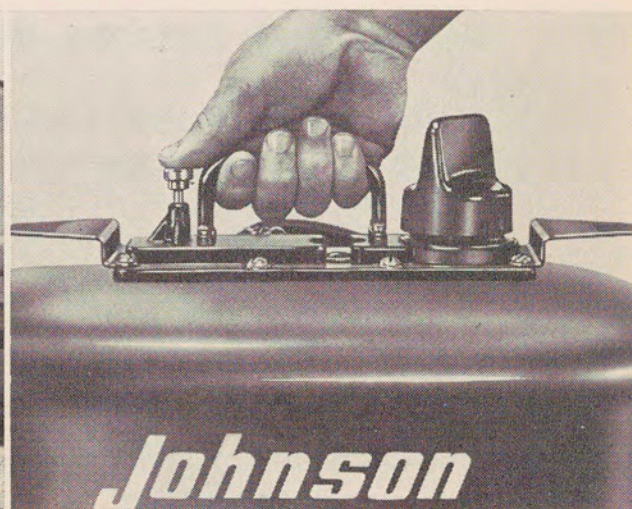

Figure 8
2. Depress pump button on the tank several times as shown (Figure 8). Note that pressure required to operate the pump increases as the fuel line and carburetor fill up—this is your signal to stop pumping. It is not necessary to pump beyond this point—priming is required only after having attached the fuel line. Fuel level is automatically maintained in the carburetor by pressure built up in the tank during operation of the motor.
- Depress pump button on the tank several times as shown (Figure 8). Note that pressure required to operate the pump increases as the fuel line and carburetor fill up—this is your signal to stop pumping. It is not necessary to pump beyond this point—priming is required only after having attached the fuel line. Fuel level is automatically maintained in the carburetor by pressure built up in the tank during operation of the motor.